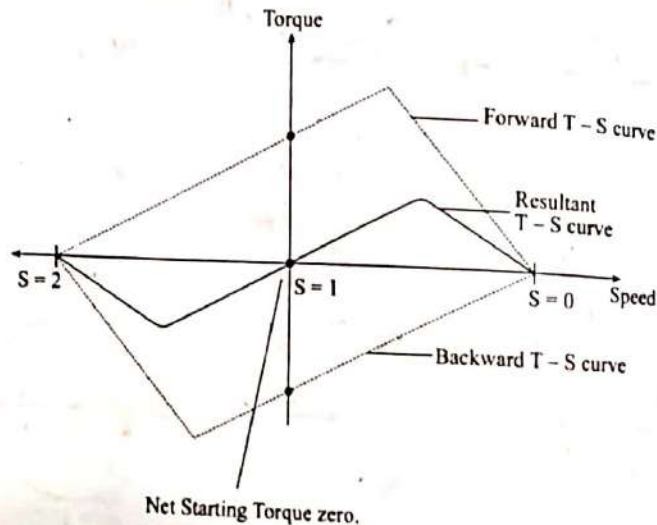

Fig. 2. Torque - speed curve of 1- ϕ I.M.
- Based on the double revolving field theory, the torque-speed characteristics of a single phase induction motor can be drawn as shown in Fig. 2.